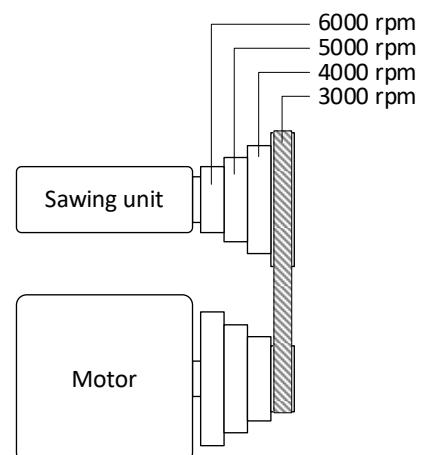

Figure 44: Speed scheme
- Now shift the V-belt to the desired speed according to ⇔ Figure 44. **Rule of thumb:** Always change from "large" to "small" first.
- Swivel the adjusting lever (H) to the left